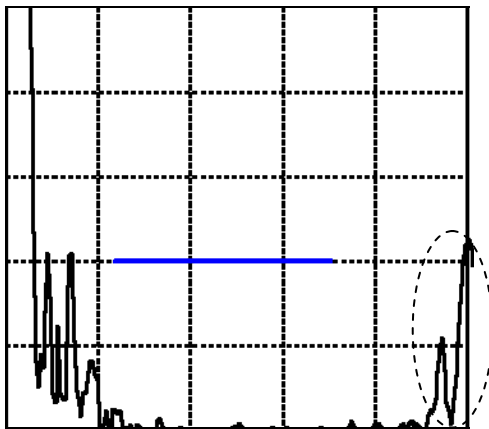

Figure 6A. Nonrelevant Indication from Couplant on the Crosstube OD.
- d. Nonrelevant indications generated from couplant on the surface of the crosstube in front of the transducer are easily identified by removing excess couplant from the surface of the crosstube. Reference Figure 6A and 6B.